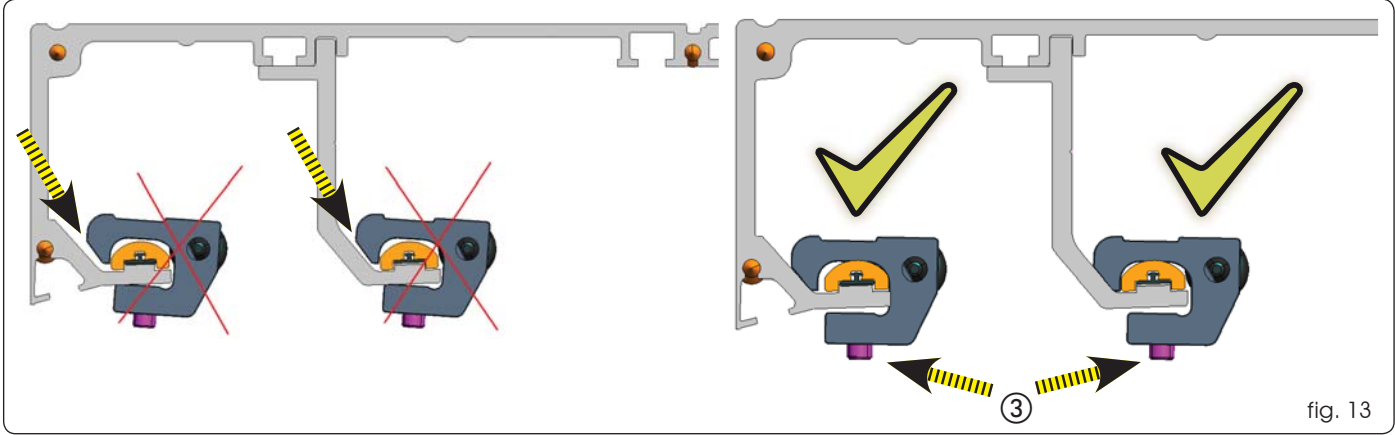

fig. 13
The mechanical stops are 4 for single leaf and 8 for double leaf. Insert the sliding guide on the profile fig 12-① and insert sideways the mechanical stop fig 12-②. Then secure it with the 2 Allen screws fig.12 ③ and fig.13-③.
Important : place the side and central mechanical stops correctly, abutting with the profile, before blocking them (fig.13 ③).